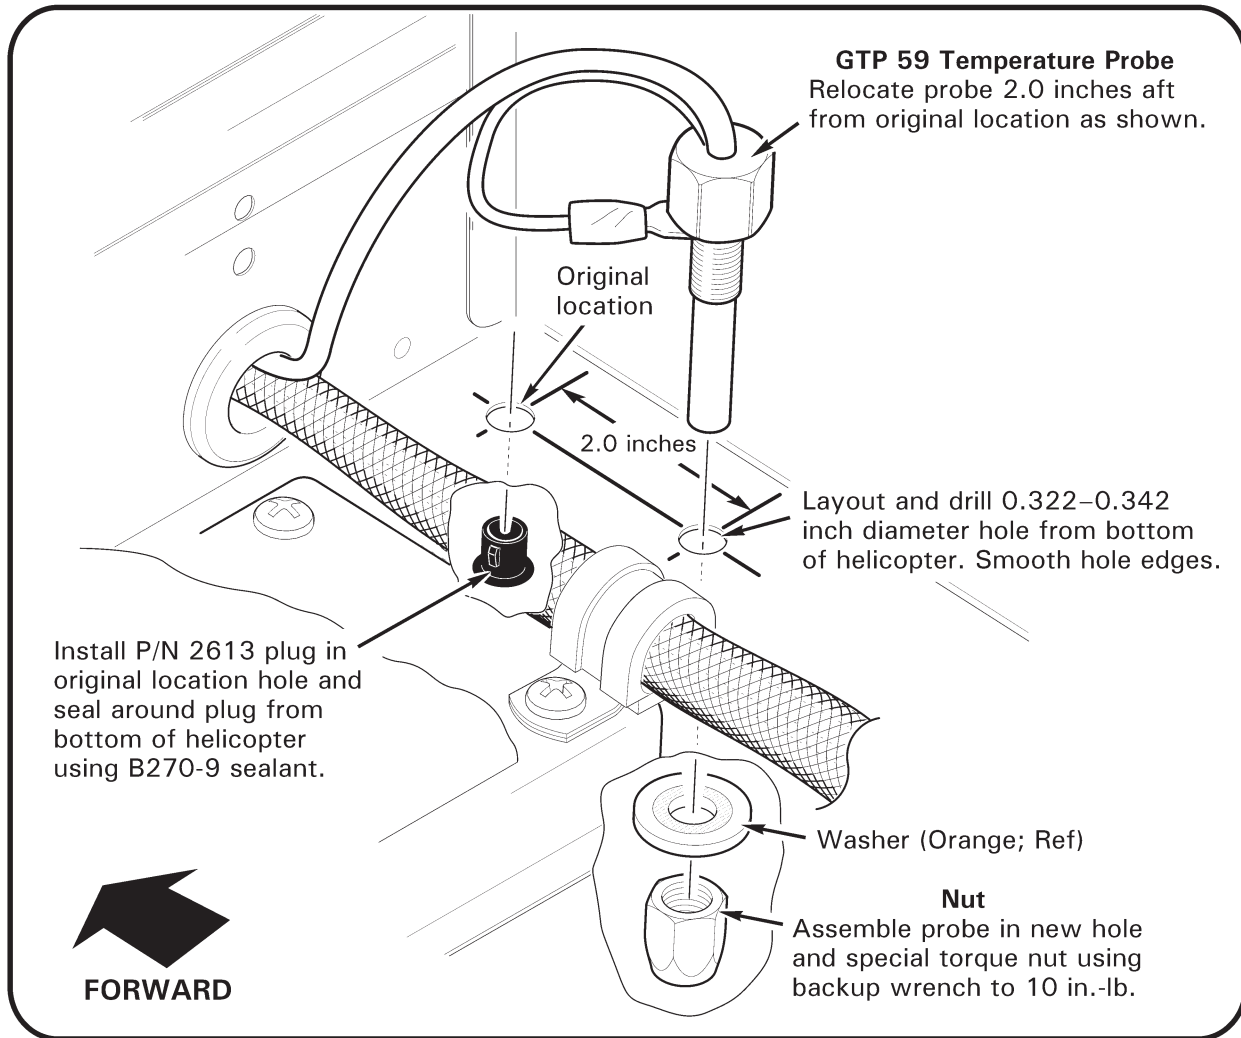

FIGURE 1
2. Remove GDL 88 ADS-B receiver per R66 Maintenance Manual (MM) § 97-54.
3. Refer to Figure 1. Remove GTP 59 temperature probe from chin using back-up wrench and retain parts.